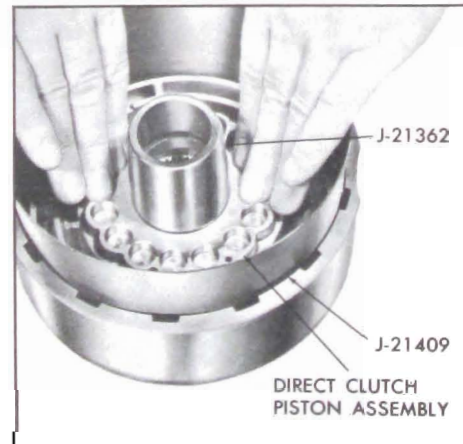

Figure 5-648
4. Place Seal Protectors, Tools J-21362 - Inner, J-21409 - Outer, over hub and clutch housing and install clutch piston. See Figure 5-648.